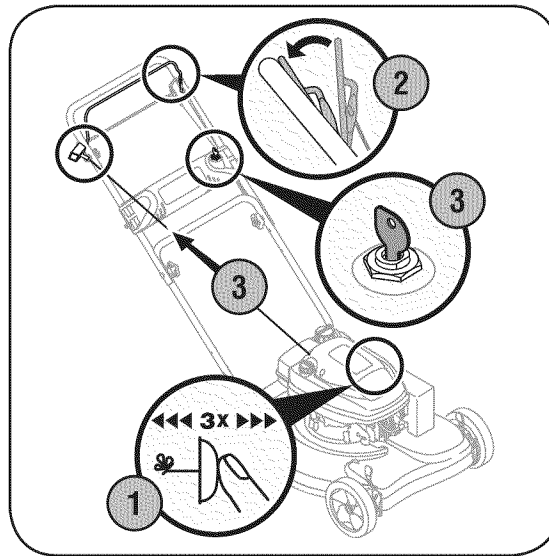

Figure 2
1. Push primer three times. Wait about two seconds between each push. See Figure 2. In temperature around 55° F or below, prime five times. Do not prime to restart a warm engine.
2. Standing behind the mower, squeeze the blade control against upper handle. See Figure 2.
3. **Recoil Start:** Grasp recoil starter handle and pull rope out with a rapid, continuous, full arm stroke. See Figure 2. Keeping a firm grip on the starter handle, let the rope rewind slowly. Repeat until engine cranks. Let the rope rewind each time slowly.